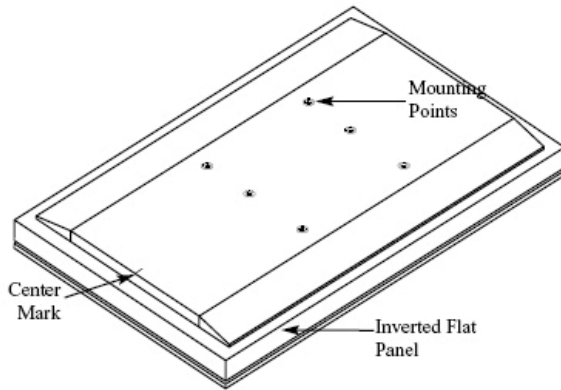

Figure 6
3. Determine where the mounting points are (Figure 6).